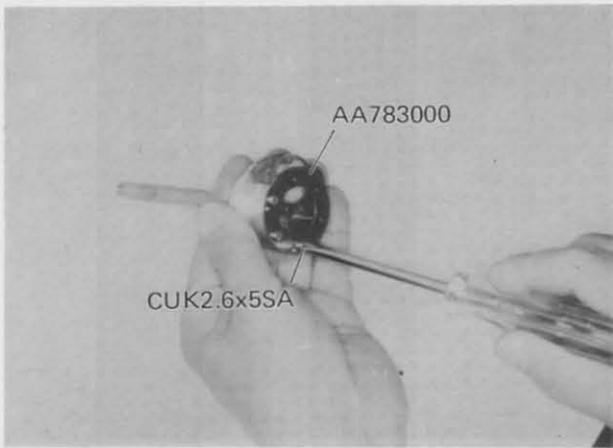

Fig. 4-17
- b) Reassemble Cover AA783000 with three Screws CUK2.6x5SA. (See Fig. 4-17)
- (1) By turning the gears with a finger, make sure that they can turn smooth with no creaking noise.
- (2) If the gears cannot turn smooth, check the following items: